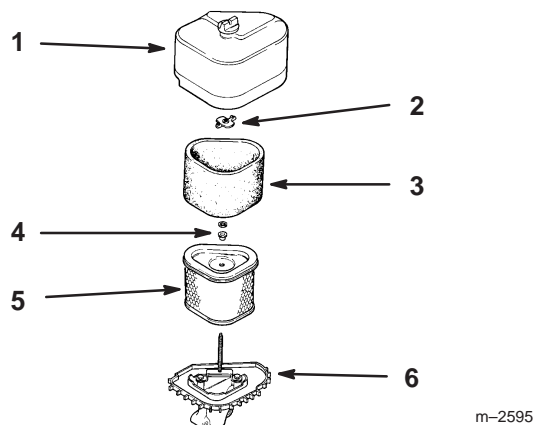

Figure 30
2. Clean around the air cleaner to prevent dirt from getting into the engine and causing damage. Unscrew the cover nut and remove the air cleaner cover (Fig. 30).
3. Remove the air cleaner assembly (Fig. 30).
- Carefully slide the foam element off the paper element (Fig. 30).
- Carefully slide the foam element onto the paper air cleaner element (Fig. 30).
- Place the air cleaner assembly onto the air cleaner base (Fig. 30).
- Install the air cleaner cover and secure with cover nuts (Fig. 30).